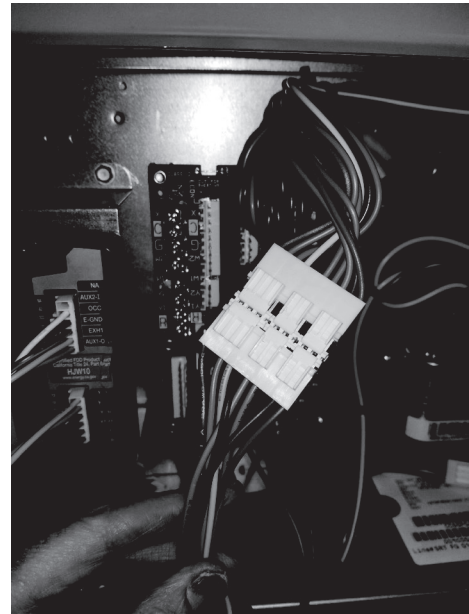

Fig. 17 — Connect 10-pin Plugs Together
21. Connect the 10-pin female ECON plug removed from the CTB to the 10-pin male plug from the Jade controller harness. See Fig. 17 and 25.